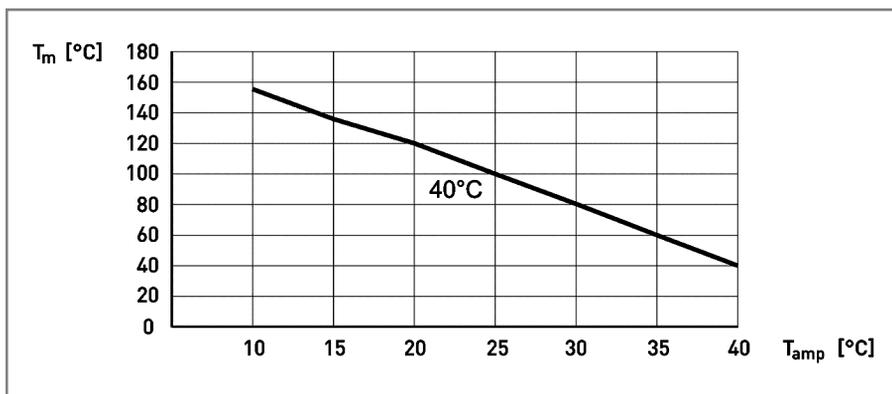

Figure 5-1: Relation between process temperature, ambient temperature and temperature of display section M9
- Average temperature for the parts in the display section M9 has to be $+40^{\circ}\text{C}$ over a long period of time. The max. allowed process temperature in relation to max. ambient temperature is shown in Figure 5-1.